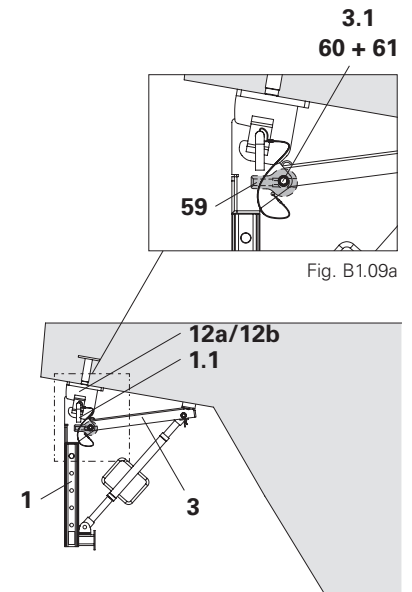

Fig. B1.09
1. Bolt Eye Nut RCS DW15 (59) in Bracket Post VGK (1) using bolts $\varnothing 16 \times 90$ (60) and secure with cotter pins 4/1 (61). (Fig. B1.09 + Fig. B1.09a)
1. Attach Eye Nut RCS DW15 (59) to Bracket Cantilever VGK 50 (3) and Bracket Post VGK (1) using bolts and cotter pins (3.1). (Fig. B1.09 + Fig. B1.09a)